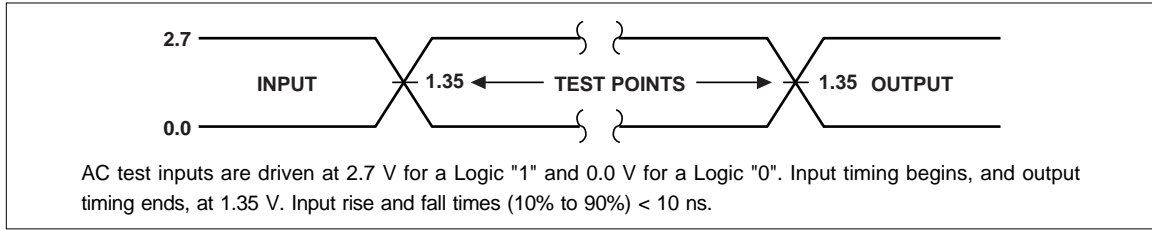
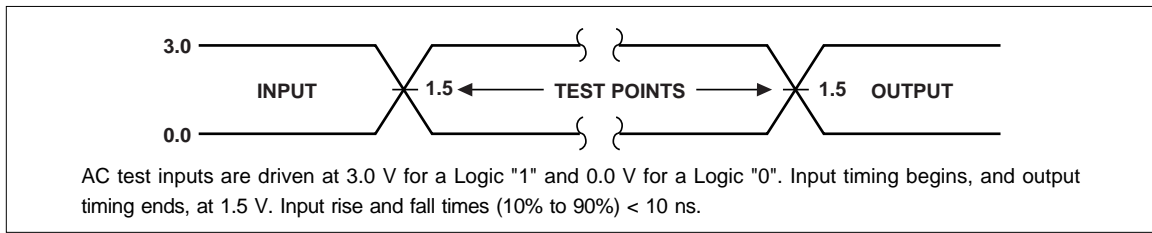

Fig. 12 Transient Input/Output Reference Waveform for Vcc = 2.7 to 3.6 V
Fig. 13 Transient Input/Output Reference Waveform for Vcc = 3.3±0.3 V
1. See AC Input/Output Reference Waveform (**Fig. 12** and **Fig. 13**) for maximum allowable input slew rate.